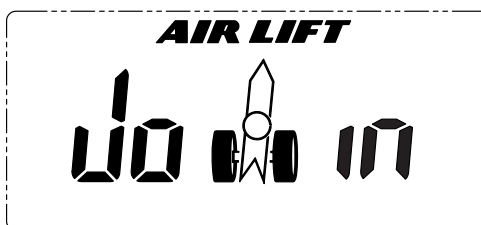

fig. 15
3. At this point, release button P1. The screen will automatically change to "Jn-r" or "Jn-F". On the Navigation Pad, use the TOP or BOTTOM button to select either "Jn-r" or "Jn-F" as you desire, then press the MIDDLE button. The screen will change to the "Join" menu as shown in fig. 15.